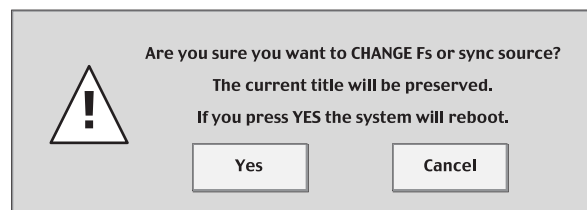

Figure 5
- If you have changed the sample rate by selecting a new one and then pressing the CHANGE button, the following dialog will appear: (See Figure 5)